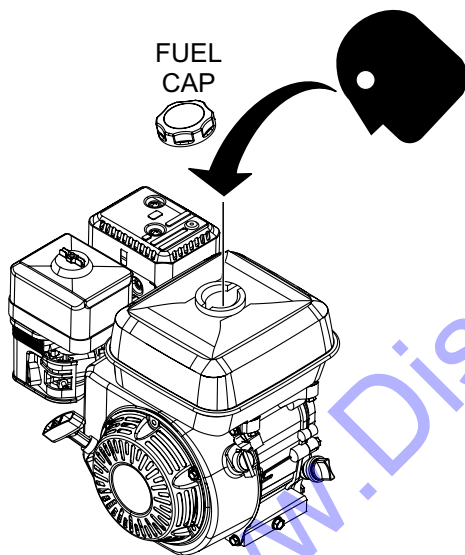

Figure 6. Fuel Check
1. Remove the fuel cap (Figure 6) located on top of fuel tank.